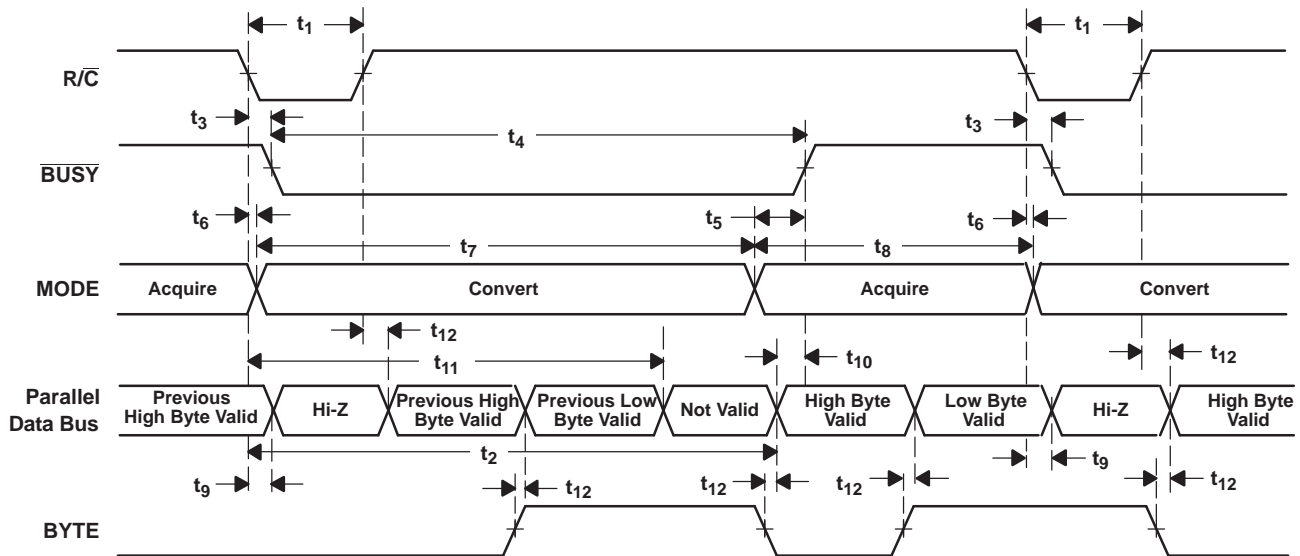
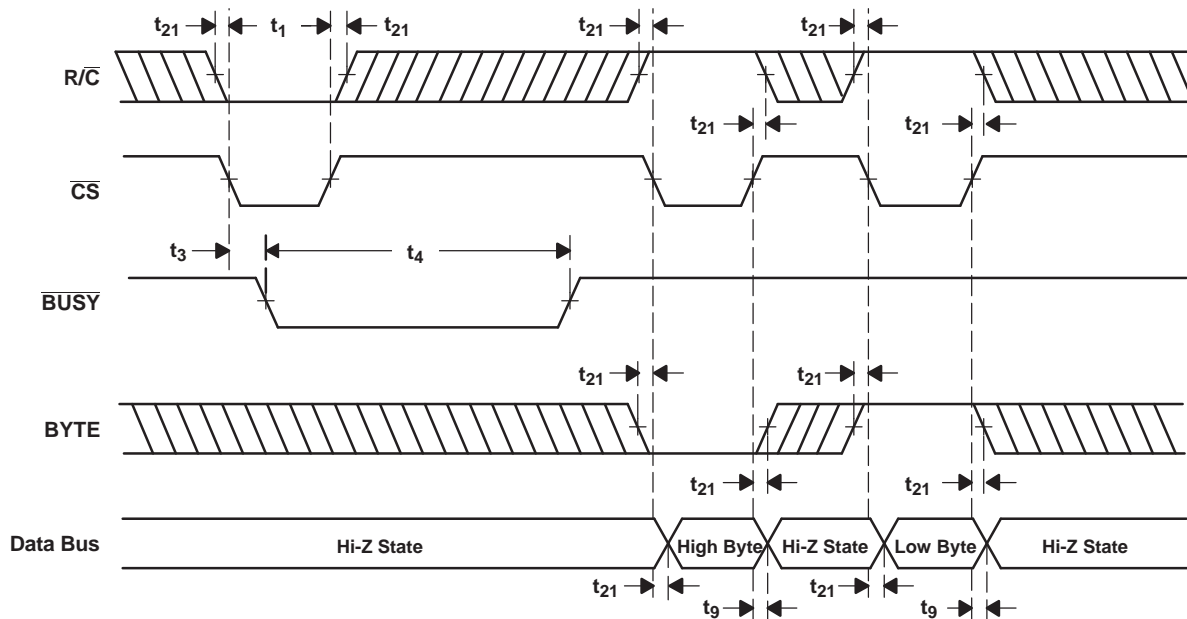

Figure 33. Conversion Timing With Parallel Output ($\overline{\text{CS}}$ and DATACLK Tied Low, $\overline{\text{EXT/INT}}$ Tied High)
Figure 34. \overline{CS} to Control Conversion and Read Timing With Parallel Outputs
The ADS8507 begins tracking the input signal at the end of the conversion. Allowing 25 μ s between convert commands assures accurate acquisition of a new signal. Refer to Table 2 and Table 3 for a summary of \overline{CS} , R/\overline{C} , and \overline{BUSY} states, and Figure 33, Figure 34, Figure 35, Figure 36, Figure 37, Figure 38, and Figure 39 for timing diagrams.
(1) See Figure 33 and Figure 34 for constraints on data valid from conversion *N*-1.
After conversion N is completed and the output registers have been updated, $\overline{\text{BUSY}}$ (pin 24) goes high. Valid data from conversion N is available on D7-D0 (pin 9-13 and 15-17). $\overline{\text{BUSY}}$ going high can be used to latch the data. Refer to Table 5 and Figure 33 and Figure 34 for timing specifications.
After conversion N has been initiated, valid data from conversion $N-1$ can be read and is valid up to $12\ \mu\text{s}$ after the start of conversion N . Do not attempt to read data beyond $12\ \mu\text{s}$ after the start of conversion N until \overline{BUSY} (pin 24) goes high; this may result in reading invalid data. Refer to Table 5 and Figure 33 and Figure 34 for timing constraints.